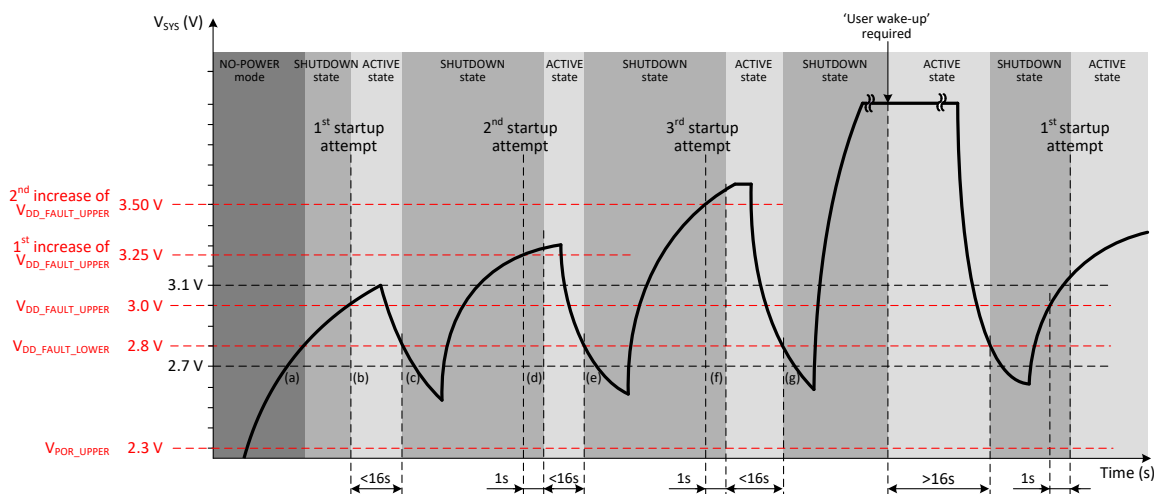

Figure 2: VDD_START Faults
The DA9061/2 VDD_START feature prevents endless looping of false starts in a weakly-powered system. VDD_START limits the number of automatic restart attempts to three. With reference to Figure 2:
- Figure 2(a): The PMIC starts from NO-POWER mode.
- Figure 2(b): First startup attempt. The PMIC transitions to the ACTIVE state when V_{SYS} rises above $V_{DD_FAULT_UPPER}$.
- Figure 2(c): If, during the first startup attempt, the V_{SYS} supply drops below $V_{DD_FAULT_LOWER}$ for more than 100 ms, the PMIC shuts down to the SHUTDOWN state. $V_{DD_FAULT_UPPER}$ is increased automatically by 250 mV. However, the increased $V_{DD_FAULT_UPPER}$ is limited to a maximum of 3.70 V.
- Figure 2(d): Second startup attempt. If V_{SYS} rises above the new $V_{DD_FAULT_UPPER}$ threshold, then the PMIC will power-up to the ACTIVE state.
- Figure 2(e): If, during the second startup attempt, the V_{SYS} supply drops below $V_{DD_FAULT_LOWER}$ for more than 100 ms, the PMIC shuts down to the SHUTDOWN state. $V_{DD_FAULT_UPPER}$ is increased automatically by a further 250 mV (500 mV above its original setting). However, the increased $V_{DD_FAULT_UPPER}$ is limited to a maximum of 3.70 V.
- Figure 2(f): Third startup attempt. If V_{SYS} rises above the new $V_{DD_FAULT_UPPER}$ threshold, then the PMIC will power-up to the ACTIVE state.
- Figure 2(g): If, during the third startup attempt, the V_{SYS} supply drops below $V_{DD_FAULT_LOWER}$ for more than 100 ms, the PMIC shuts down. From then on, AUTO_BOOT and wake-up from non-user events are temporarily disabled. 'User events' are defined as an ONKEY press or a GPI passive to active transition where $GPIO<x>_{PIN} = 0b01$ and $GPIO3_WEN = 1$. GPIO4 configured as SYS_EN and GPIO2 configured as PWR_EN are not 'user events'.